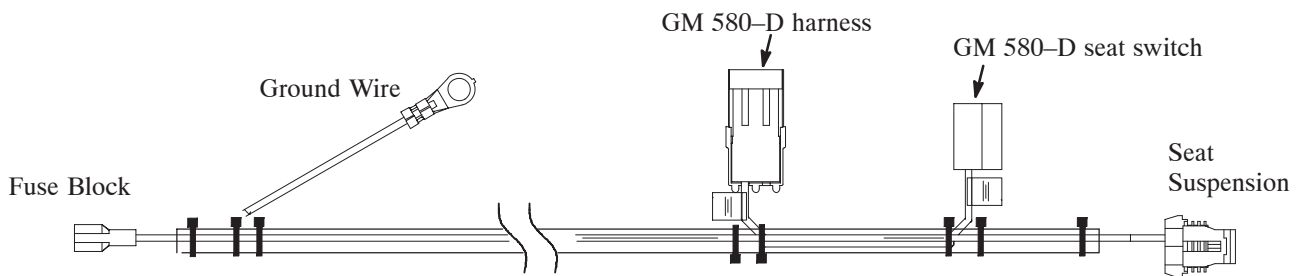

Figure 9
12. Connect the air ride wire harness to the traction unit (Fig. 9) as follows:
- Plug the air ride harness connector into the air ride seat suspension wire connector (Fig. 9).
- Plug the air ride harness connector labeled “580-D seat switch” into the seat switch wire connector (Fig. 9).
- Plug the traction unit harness connector into the air ride harness connector, labeled “580-D harness” (Fig. 9).
- On machines prior to Model 30582, plug the air ride harness spade terminal into the innermost spade terminal of the new fuse block (Fig. 9).